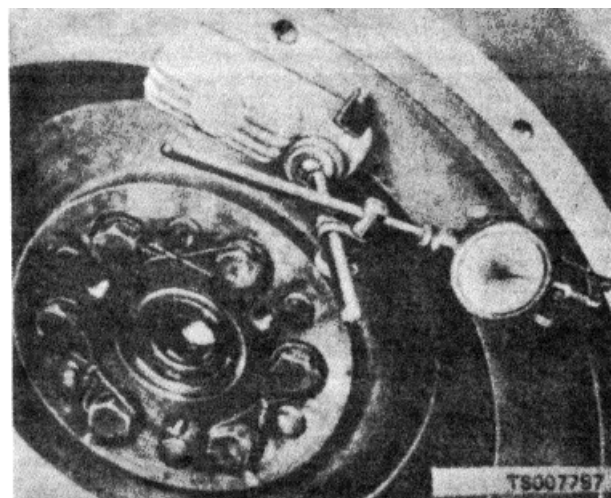

Figure 9-23. Checking Flywheel Housing Runout.
e. Check runout of the flywheel housing face by mounting a dial indicator (fig. 9-23) and rotating the crankshaft through one revolution. Hold pressure against the flywheel to eliminate end play. If runout exceeds 0.008 inch, clean the mounting surfaces of the flywheel housing and the block. Recheck flywheel housing runout. If the runout is still not within limits, replace the flywheel housing.